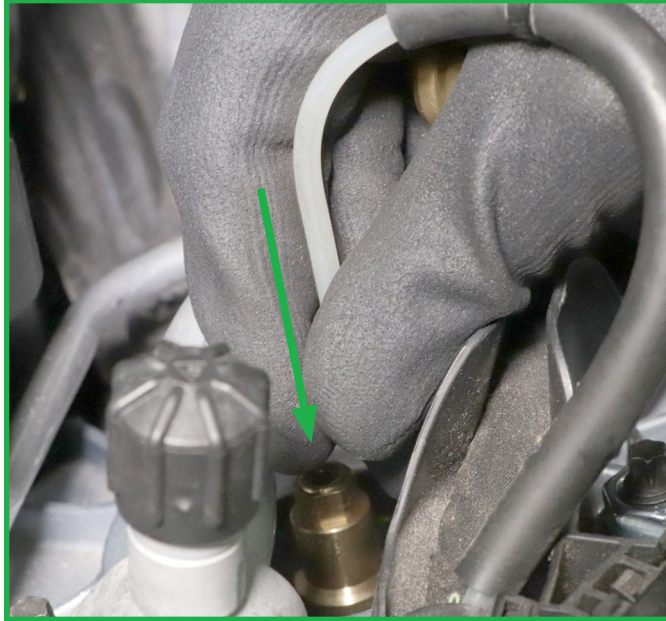

FIGURE 25
8. Insert the air line in to the air fitting until it is fully seated. (Figure 25)